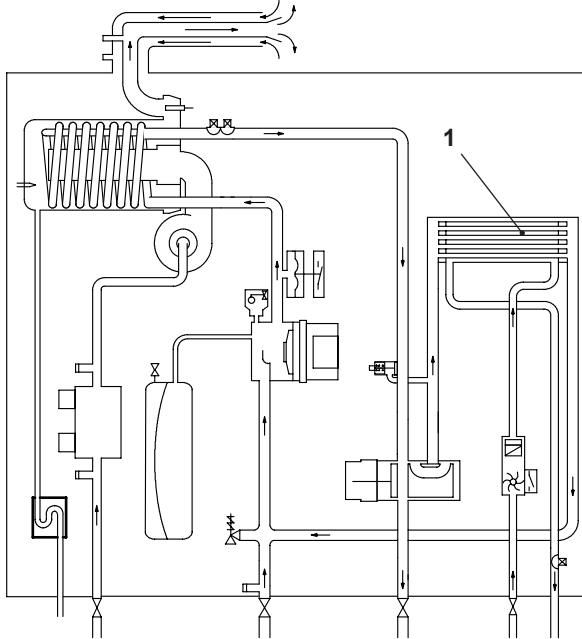
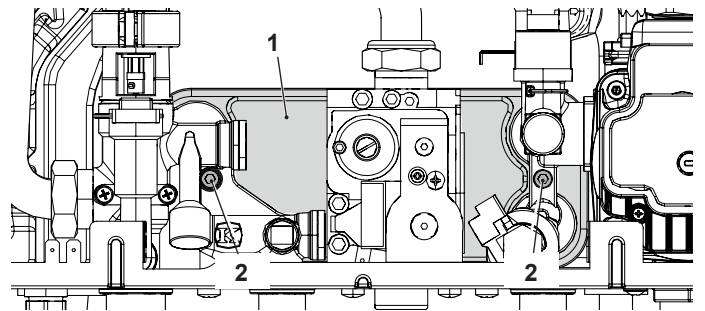

Figure 6.1
Figure 6.3
The D.H.W. heat exchanger "1" in Figure 6.1 and Figure 6.3 allows the instantaneous transfer of heat from the primary hydraulic circuit to the water destined for D.H.W. use.
- 5 Completely unscrew the Allen key screws "2" in Figure 6.3 which hold the exchanger to the groups.